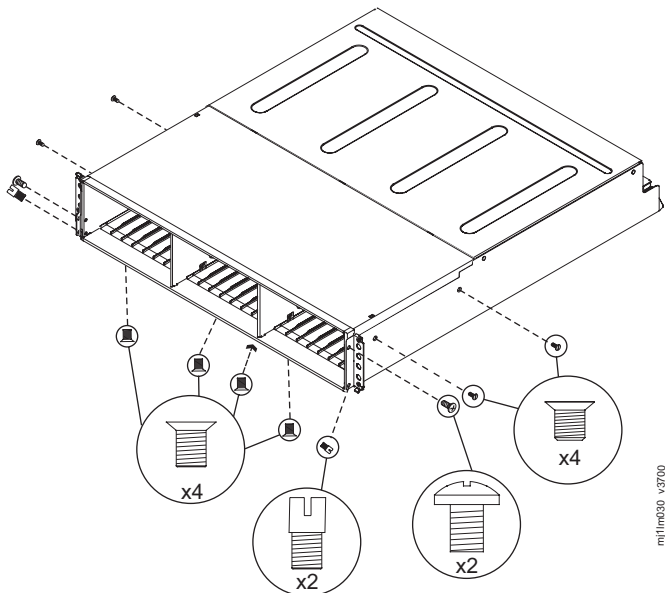

Figure 100. Removing the screws of an expansion enclosure assembly
12. Remove the four screws from the bottom of the enclosure (see Figure 100 on page 340). Remove the three screws that are near the front and the screw that is near the middle. Label these screws to indicate the location from which they are removed and place them aside.
14. Remove the three screws and one screw-pin on the right side that secure the midplane assembly to the enclosure (see Figure 100). Label the screws to indicate the location from which they are removed and place them aside.
15. Remove the three screws and one screw-pin on the left side that secure the midplane assembly to the enclosure (see Figure 100). Label the screws to indicate the location from which they are removed and place them aside. See Figure 4.